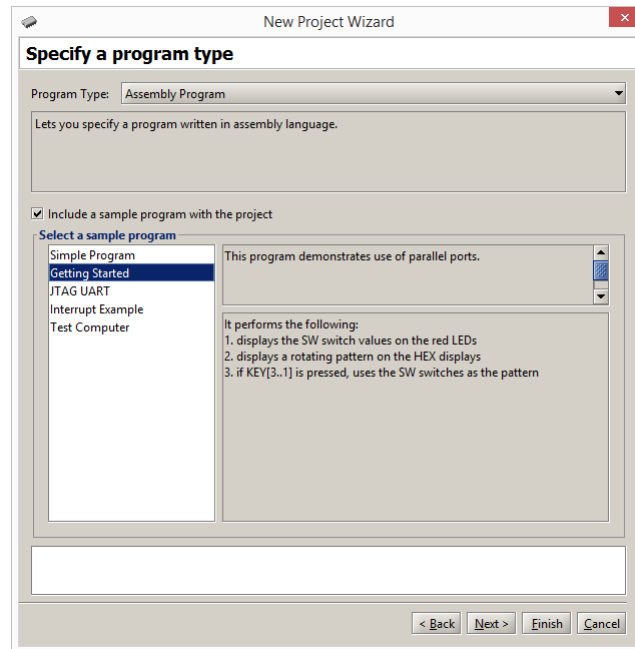

Figure 4: Selection of an application program.
- In the window in Figure 4 you can specify the type of application programs that you wish to run. They can be written in either assembly language or the C programming language. Specify that an assembly language program will be used. The Aardvark Monitor Program package contains several sample programs. Select the box **Include a sample program with the project**. Then, choose the **Getting Started** program, as indicated in the figure, and click Next.
1. Create a new folder for this part of the exercise, with a name such as *Part2*. Create a file named *part2.s* and enter the code from Figure 9 into this file. Use the Monitor Program to create a new project in this folder; we have chosen the project name *part2*. When you reach the window in Figure 4 choose **Assembly Program** but do not select a sample program. Click **Next**.